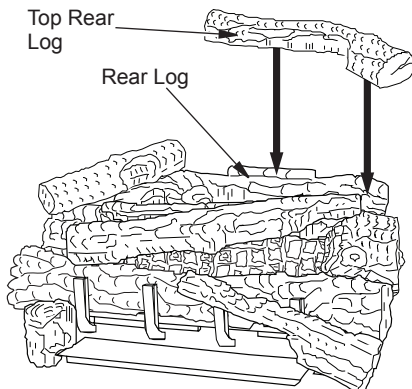

Figure 58 - Installing Top Rear Log
- Place the top rear log onto the rear log as shown. The rear log has a projection that will fit into the recess area on the bottom of the top rear log (see Figure 58).